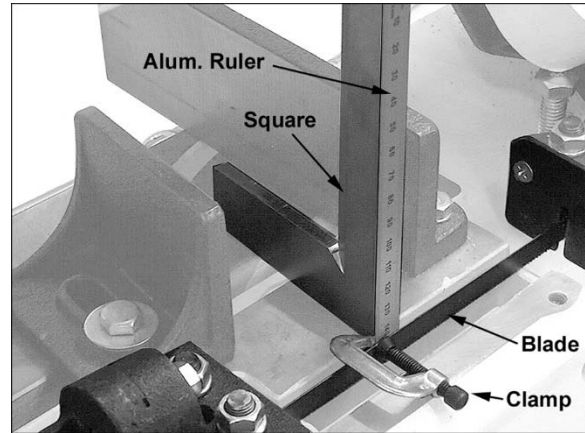

Figure 7-7
1. "Extend" the surface of blade by clamping a straight, flat object to blade. (Figure 7-7 uses a small, lightweight aluminum ruler.) Use a lightweight clamp.